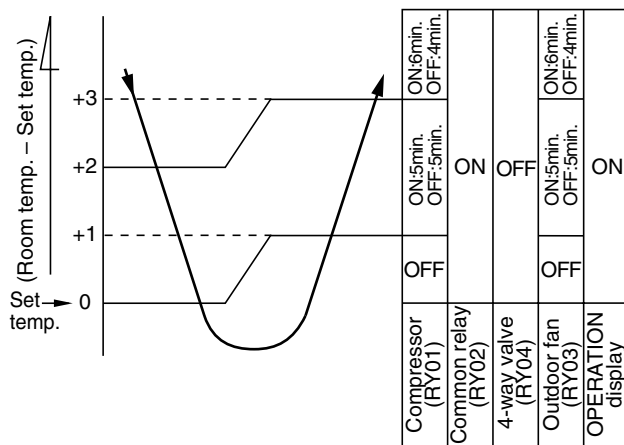

Fig. 7-3-1
- (1) Compressor 4-way valve, outdoor fan and operation display are controlled as shown in Fig. 7-3-1.